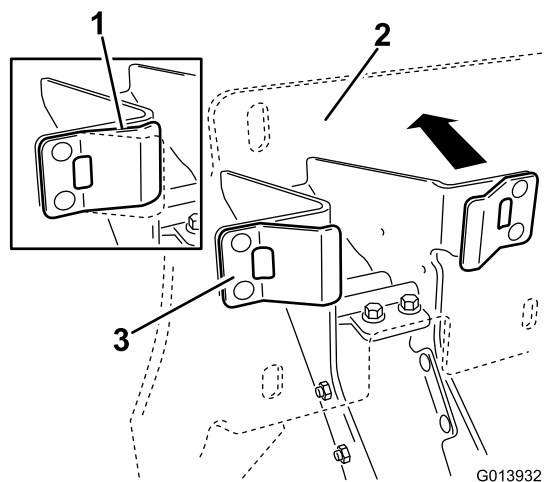

Figure 14
1. Making sure the plastic stops are in contact with the spring tabs, apply enough pressure against the back plate assembly of the cradle to compress the spring tabs midway (Figure 14).